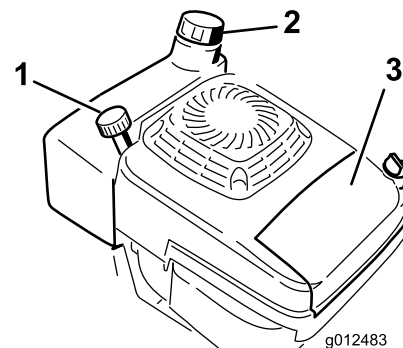

Figure 17
1. Clean around the fuel tank cap (Figure 17).